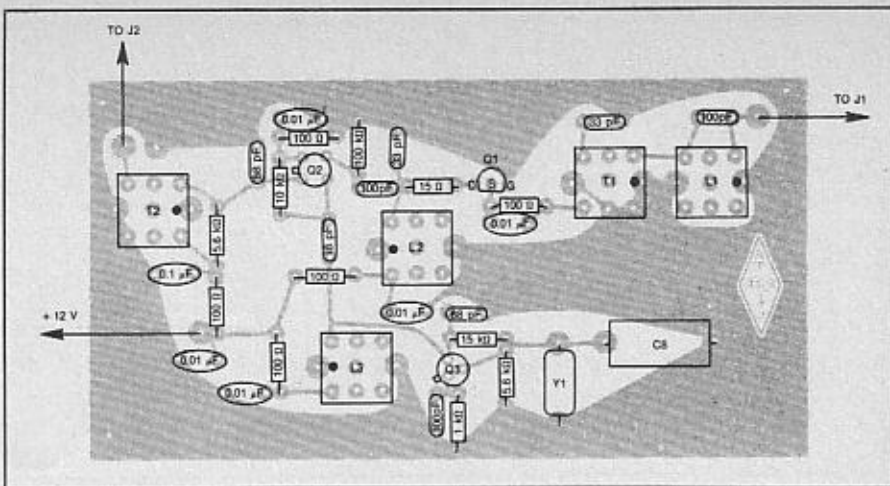

Fig. 3 — Parts-placement guide for the converter, as seen from the component side of the board. The shaded area represents an X-ray view of the copper pattern.
Fig 3—Example (A) of a crystal oscillator that can be built on an IC header. The heavy black line indicates the MCM boundary. All other parts are external to the MCM. L1 is a 5.5- $\mu\text{H}$  inductor (33 turns of no. 28 enameled wire on an Amidon T50-2 core). L2 consists of 6 turns of no. 28 wire. The MCM layout is given at B.
A parts-placement layout, seen from the component side of the board, is given in Fig. 3. A scale etching template is shown in Fig. 4.